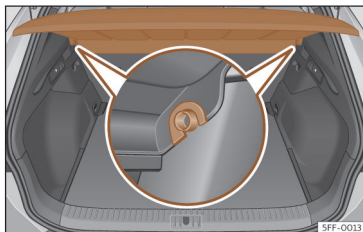

Fig. 186 In the boot: removing and installing the shelf.
- Remove the rear shelf from the side supports >>> **Fig. 186** by pulling it upwards and then take it out.
- Insert the cover horizontally so that the "recess" fits onto the axis of the supports >>> **Fig. 186** and press down until it engages.